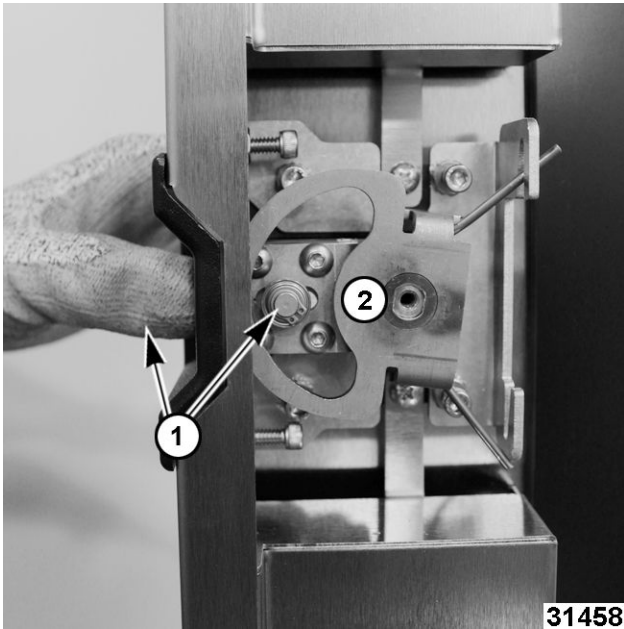

Fig. 15
- Press latch (1, Fig. 15) into door to remove cam (2, Fig. 15).